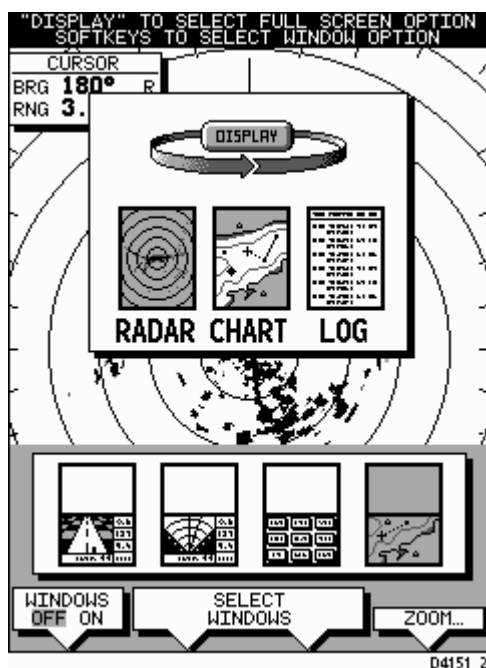

Figure 2-5: Using the DISPLAY Key
- To change the mode, press the **DISPLAY** key to show the DISPLAY pop-up, then press again to cycle through the modes available, shown in the *Figure 2-5*.